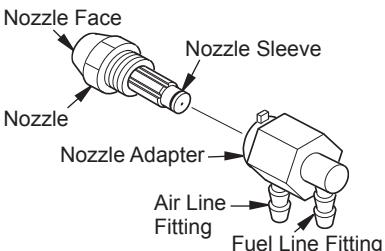

Figure 26 - Nozzle and Nozzle Adapter
6. Carefully remove nozzle from the nozzle adapter using 5/8" socket wrench (see Figure 26).
9. Replace nozzle into nozzle adapter until nozzle seats. Tighten 1/3 turn more using 5/8" socket wrench 4.5 to 5.1 N·m (40 to 45 in-lbs). See Figure 26.